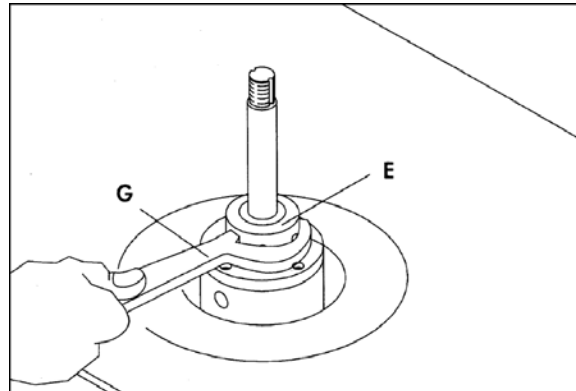

Figure 4
7. Use the supplied spanner wrench (G, Figure 4), to tighten the spindle nut (E, Figure 4).